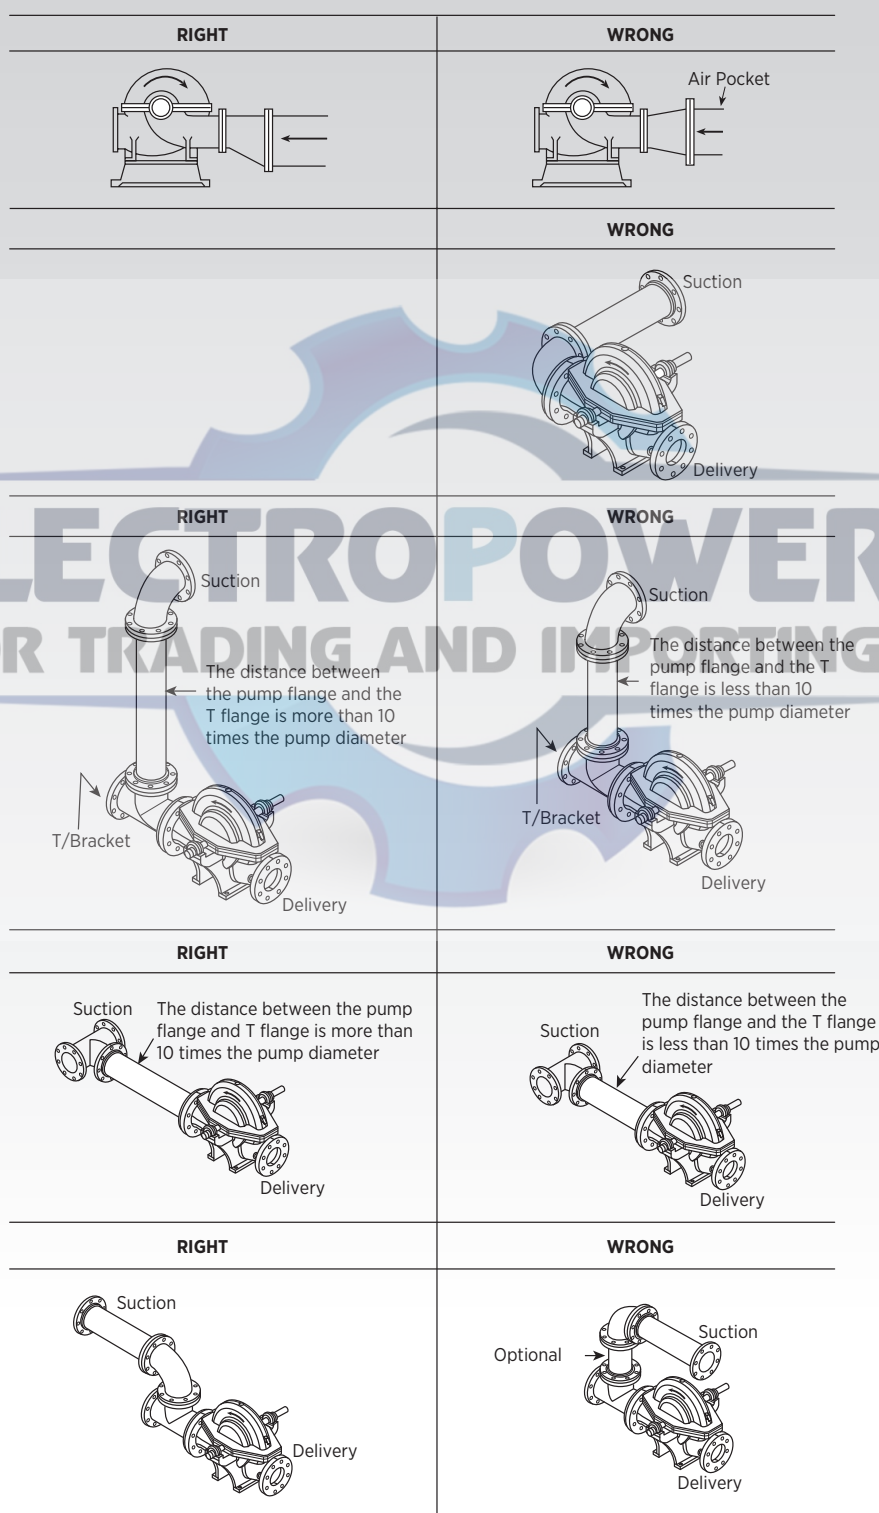

Figure 2: Pump Suction Line Connection Examples
- The diameter of the line between the fire pump and the suction collector should be a straight line with a length at least 10 times the suction diameter value of the pump in NFPA 20. Figure 2 indicates the right and wrong applications of this connection.